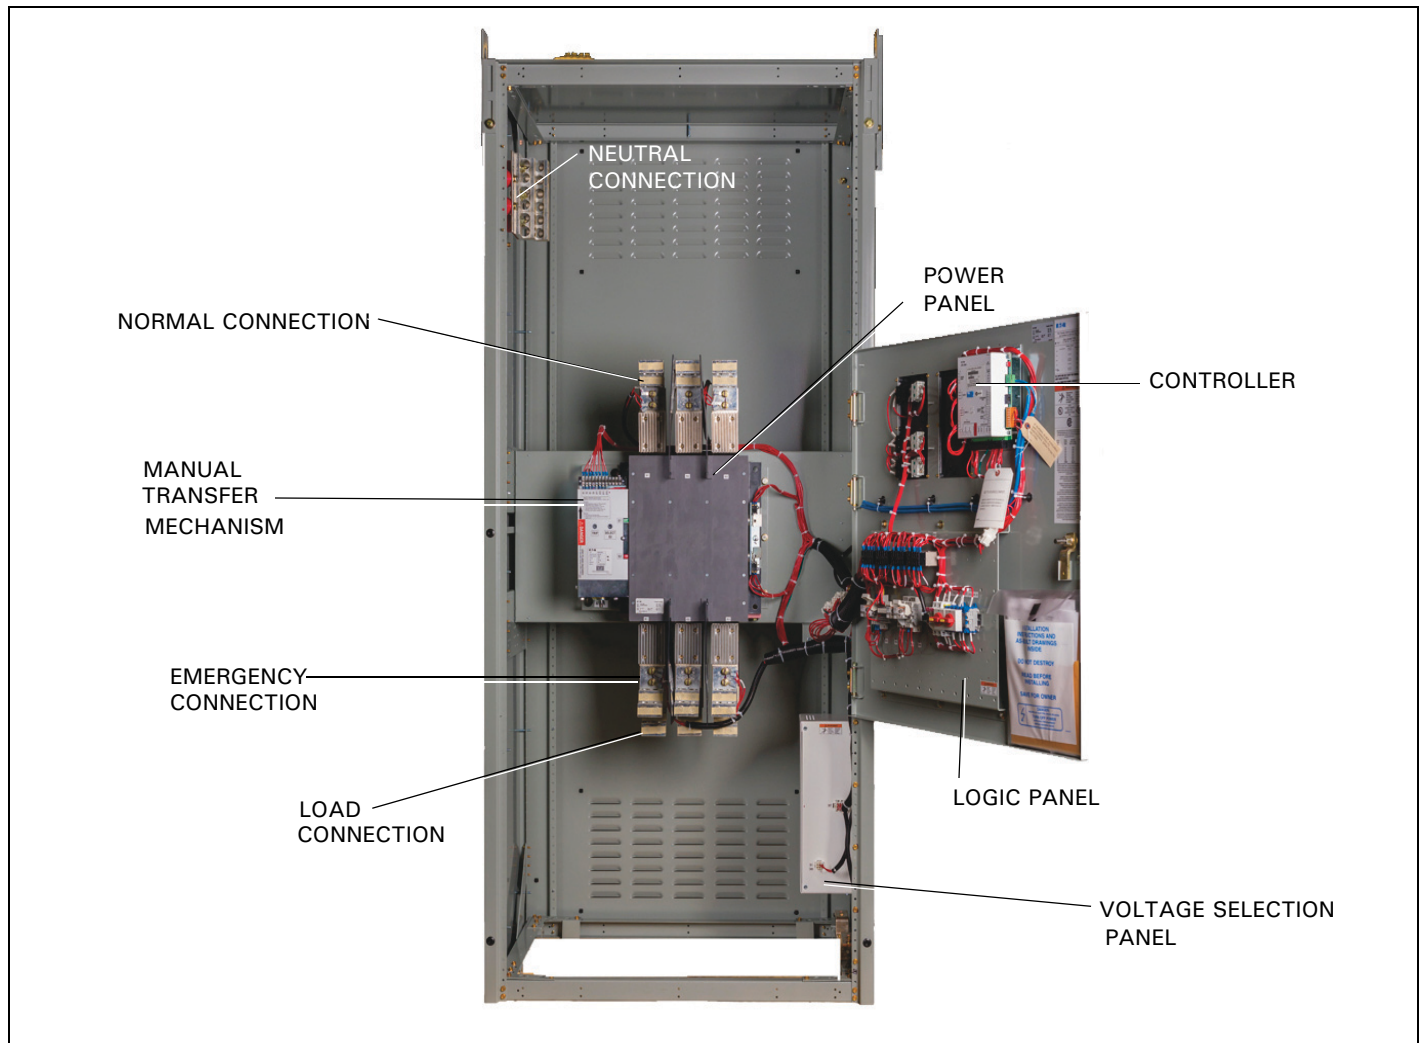

Figure 18. 1600A, 3-Pole, ATS Interior Components Shown with (ATC-300).
For 4 pole transfer switches, connect the load cables (TN), Source 1 or utility supply (NN), and Source 2 or generator supply (EN). Refer to Figure 18 for the location of all parts discussed in this document.
*Load cables MUST be connected and torqued BEFORE installing the SUPPLY cables (Figure 18).